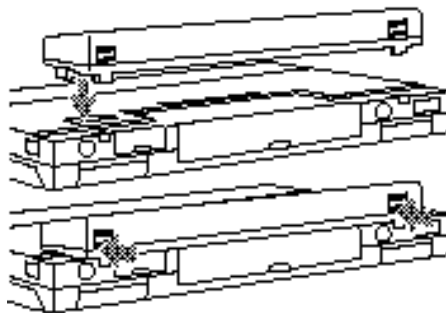

Figure 4-8 Installing and Removing the External Lithium ion Smart battery
4. Take your external battery and arrange it with the release buttons toward you and the protruding connector down. (Figure 4-8.)